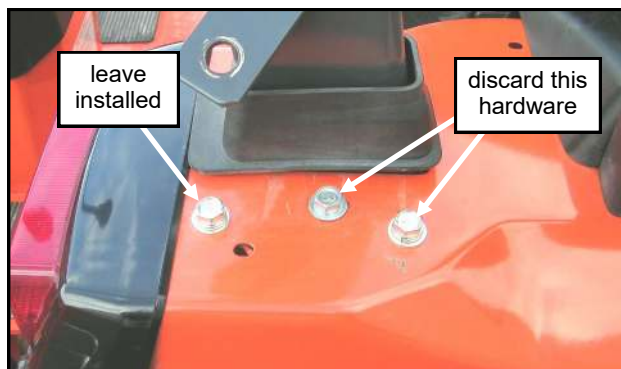

Fig. 1.6 (fender hardware - right)
1.6 Per figure 1.6, remove and discard the middle piece of hardware found on the fenders near the ROPS. If the vehicle includes the hardware closest to the seat, remove and discard.